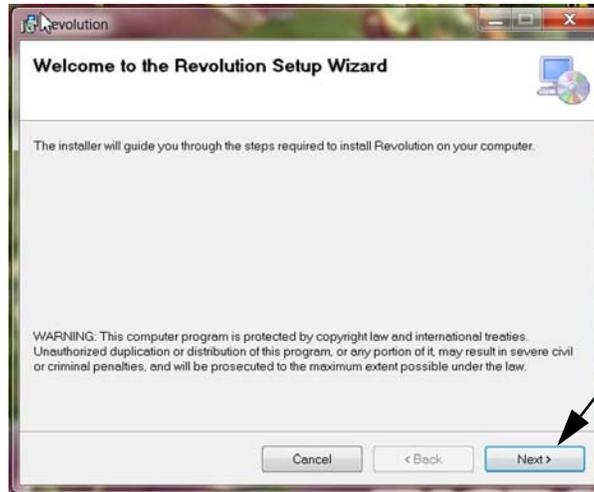

Figure 4-4. Welcome Screen
3. The *Welcome to the Revolution Setup Wizard* screen pops up, click **Next** (Figure 4-4).